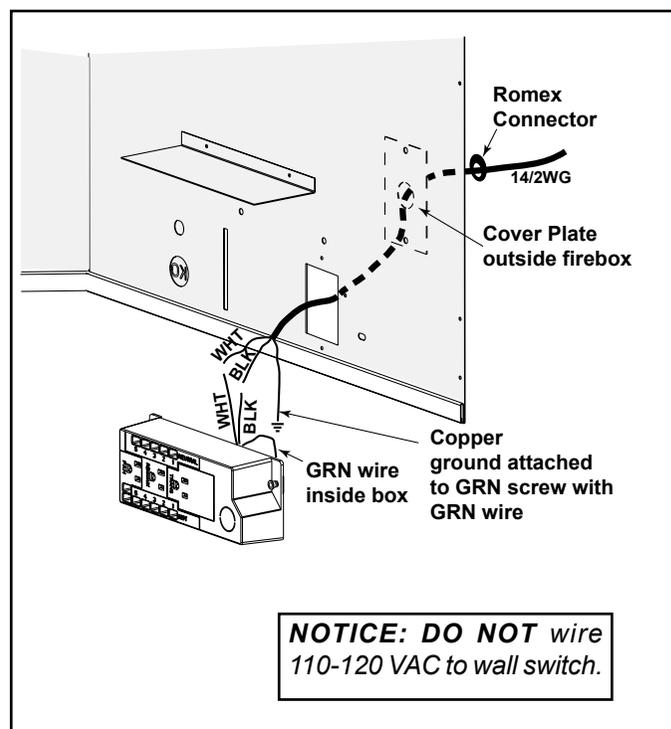

Figure 12.2 Junction Box Detail (Appearance may vary per model)
- Remove the screw attaching the junction box/receptacle to the outer shell, rotate the junction box inward to disengage it from the outer shell (see Figure 12.2).
- Pull the electrical wires from outside the appliance through the opening into the valve compartment and secure wires with a Romex connector. See Figure 12.2.